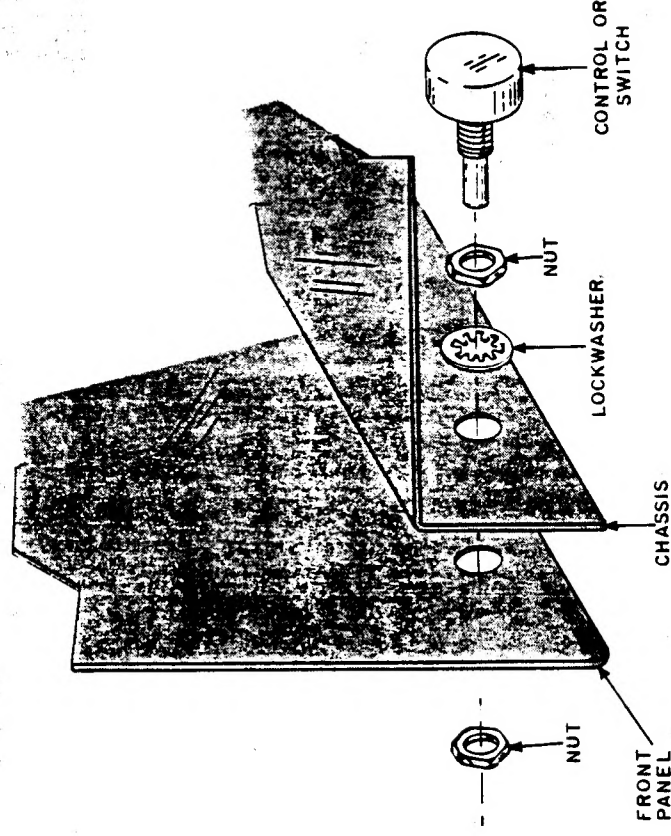

FIGURE 7. HOW TO MOUNT THE PANEL WITH A CONTROL OR SWITCH
- () Mount S-1, the band switch, in the large hole on the left front of the chassis and the panel. The three terminals must be toward the open side of the chassis. Screw a large nut over the threaded bushing several turns, place one of the large lockwashers on the shaft, and insert the shaft through the hole in the chassis and the hole in the panel. Tighten another large nut over the threaded bushing. See Figure 7.